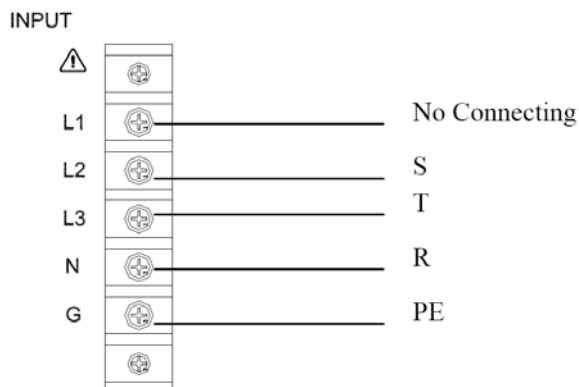
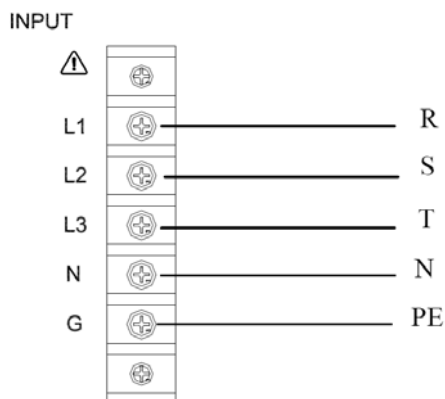

Figure 8 220V_{LL}, 3-phase 4-wire Δ Input Connection
Figure 9 380V_{LL}, 3-phase 5-wire Y input connection
- (5) To assemble 62050P ➡ see Figure 8, Figure 9